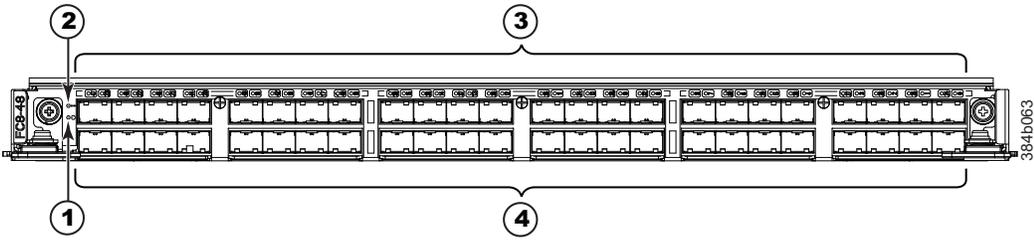

Figure 56. FC8-48 port blade
- Figure 56 on page 146 shows an FC8-48 port blade